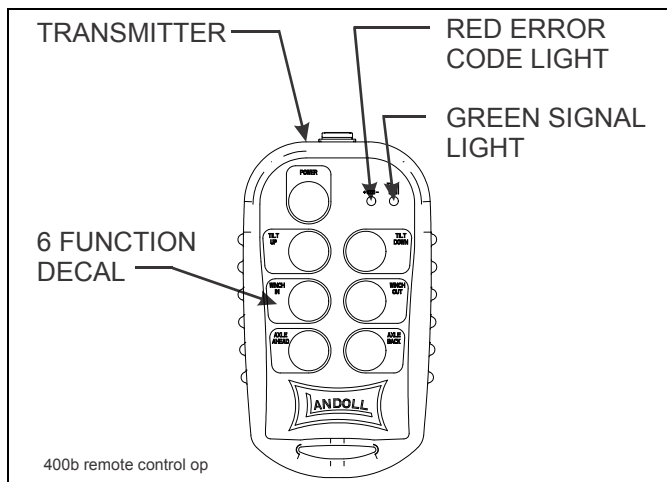

Figure 3-15: Remote Control Transmitter
1. A wireless six function radio remote control is available (See Figure 3-15.)